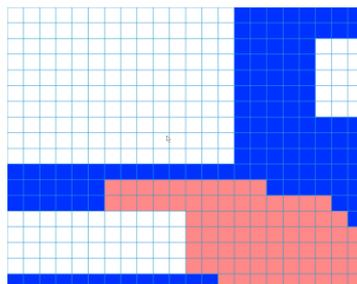

Figure 4-28
- Test: Click it to test current motion detect setup (do not need to save). Click Select button after Region, you can set motion detect area. The default setup is whole region. The blue zones are the selected area. Please set sensitivity and click Test button, you can see system only display motion detect status of the blue area. The red flashing area is current motion detect. See Figure 4-28.